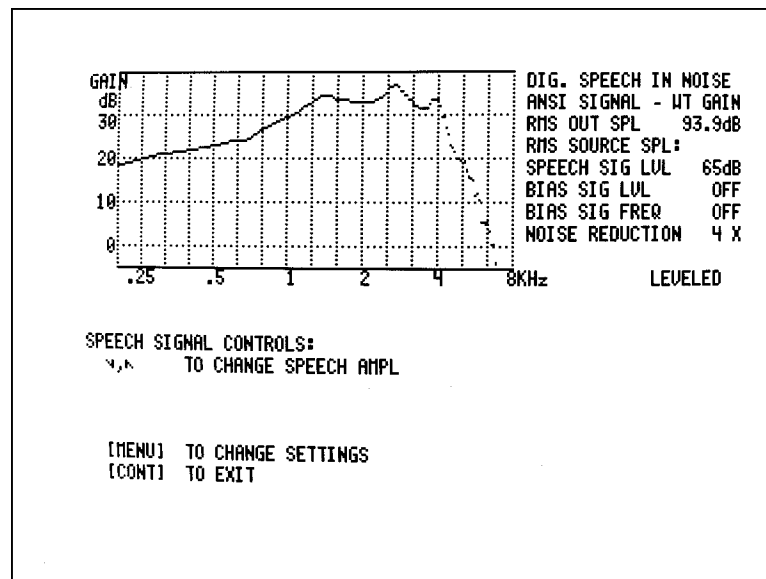

Figure 7.4.2—Digital Speech in Noise Screen
4. Press [START]. See Figure 7.4.2.